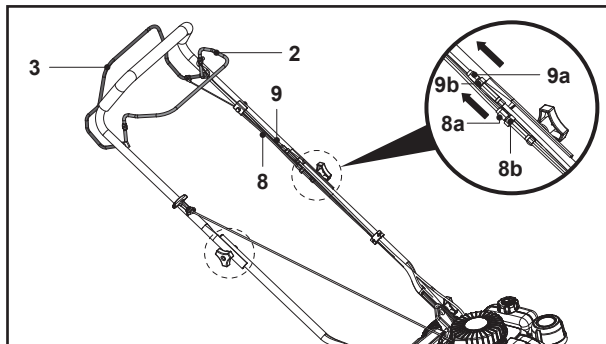

Fig. 28
If the rear wheels (23) do not rotate when operating the self-propelling lever (3), it may be necessary to adjust the tightness of the self-propelling wire (8) (Fig. 28).